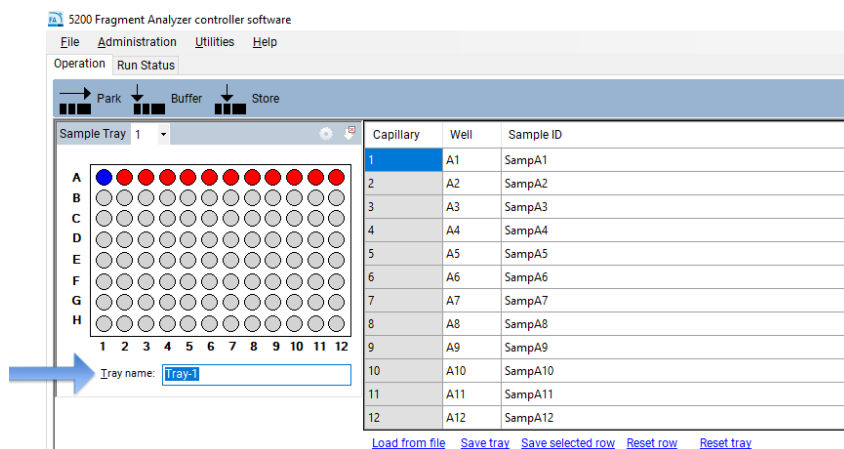

Figure 86 Highlight of the tray name
- In the field **Tray name** of the **Operation** tab, highlight the tray name with the mouse cursor (Figure 86).